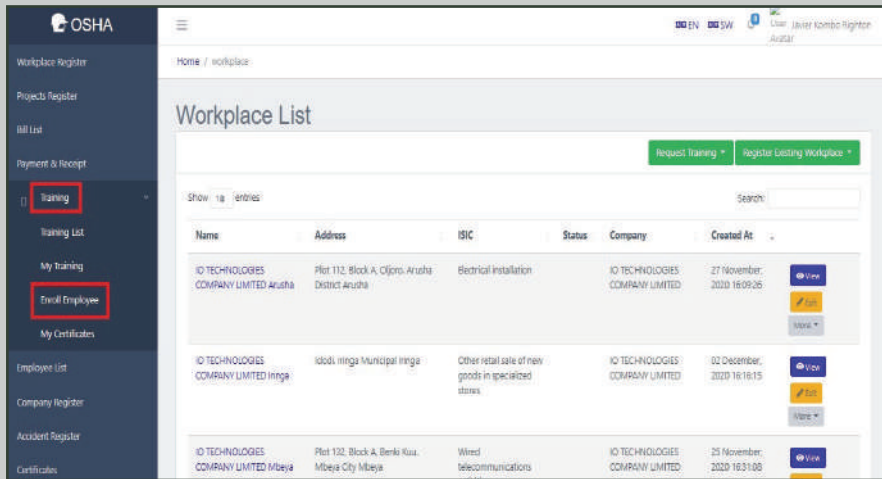

Figure 40: Accessing employee enrollment page
- i) Click on the Training menu to access the option for enrolling employees into training. Click on Enroll Employee sub-menu to view and fill the form for Training Employee Enrollment. This is illustrated in Figure 40.